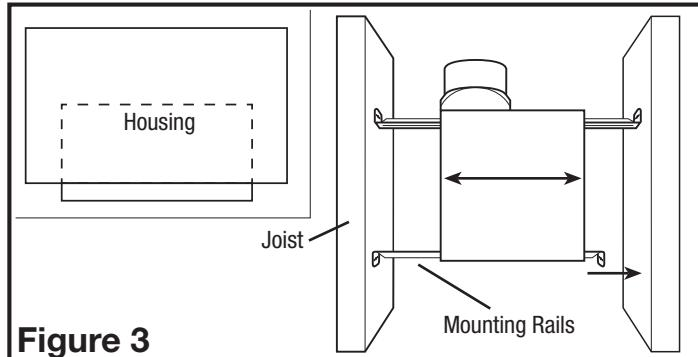
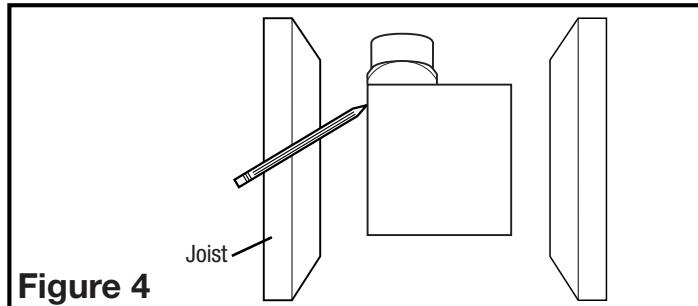

Figure 3
Figure 4
- Install the side rails on the housing and position the housing next to the joist. Line up housing so that it will be flush with the finished ceiling. Secure the ends of the rails with screws or nails (not included) to the joists and slide the housing into the final position (**Figure 3**).
- Set housing in position between the joist and trace an outline onto the ceiling material (**Figure 4**). Set housing aside and cut opening, being careful not to cut or damage any electrical or other hidden utilities. Install the side rails on the housing and position the housing in the previously cut hole so that it is flush with the finished ceiling. Secure the ends of the rails to the joists (**Figure 3**).